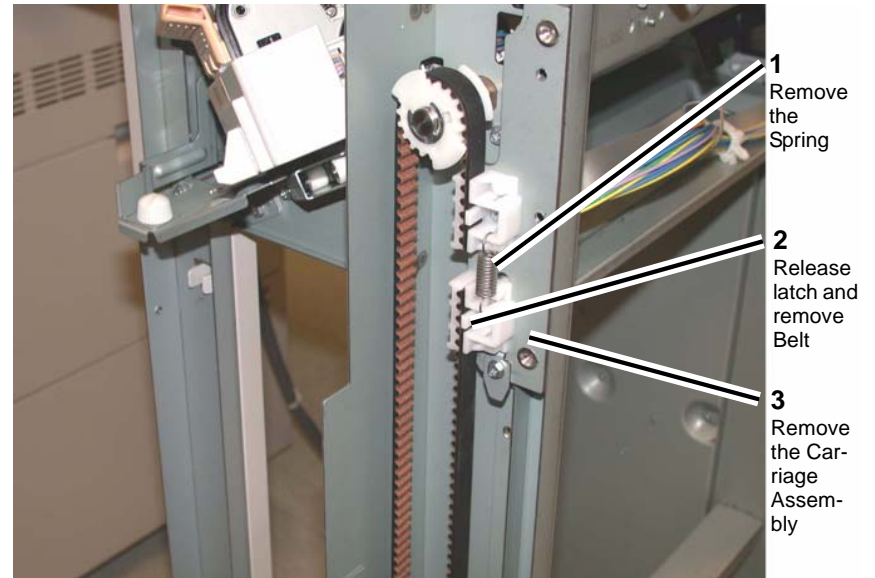

Figure 1 Removing the Carriage Assembly
6. Removing the Carriage Assembly (Figure 1).